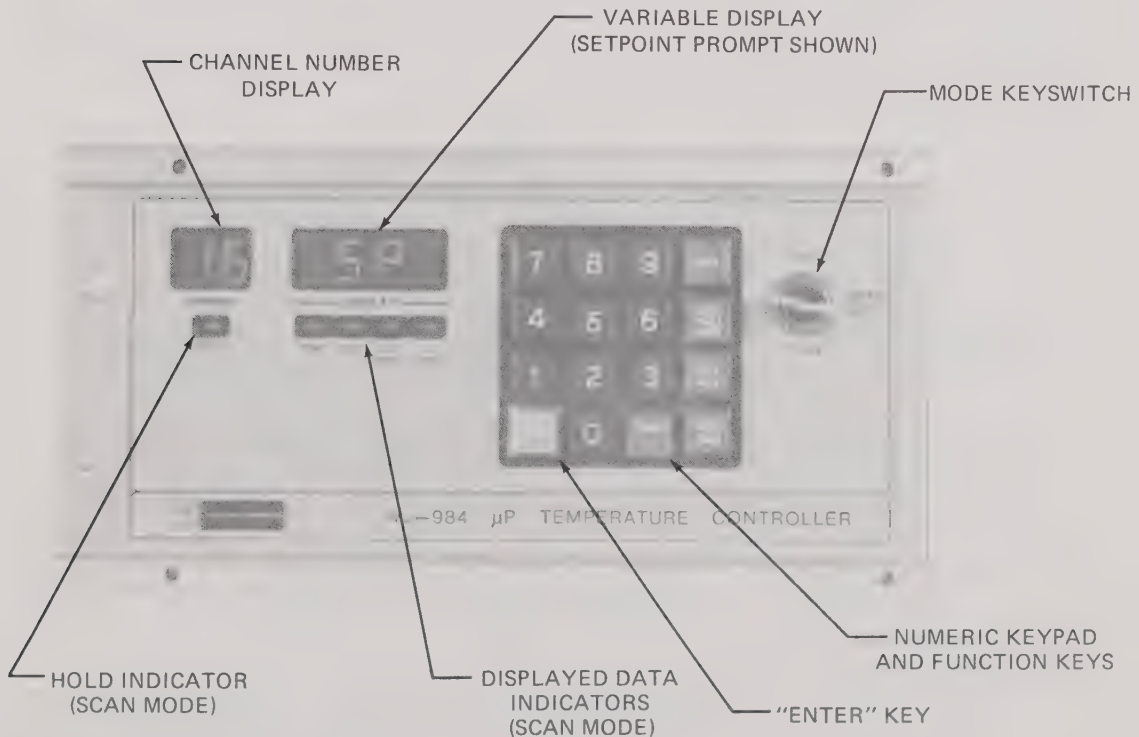

Figure 4.1 - Front Panel
4.1 ENTER DATA MODE (See Figure 4.1)